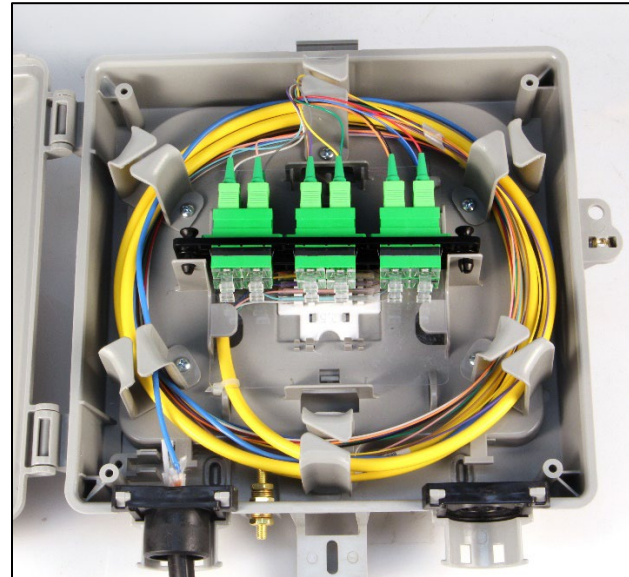

Figure 15
2. Coil and secure to the wall any excess feeder cable below FET2 entry (Figure 15)